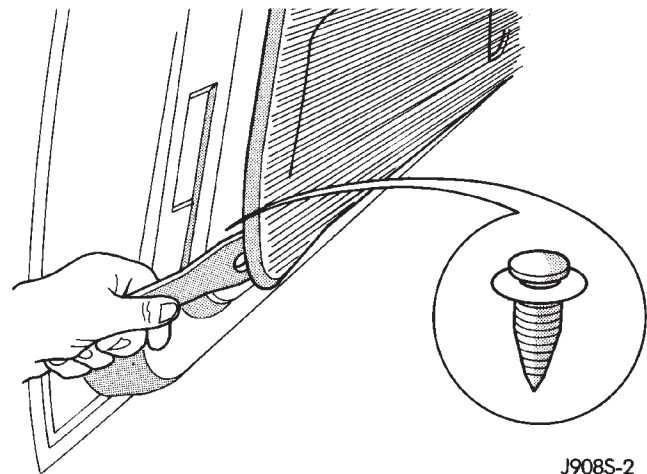

Fig. 3 Trim Panel Removal
(6) Remove the trim panel with a wide flat blade tool (Fig. 3).
(4) Remove the trim panel with a wide flat blade tool (Fig. 3).